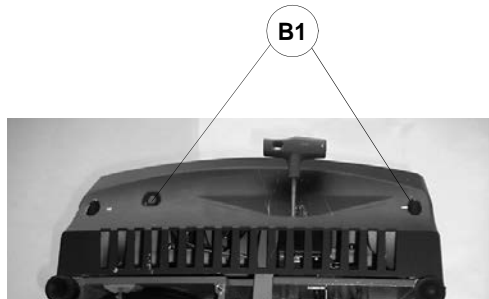

Fig. 139
- 2) remove the display's support, by unscrewing the 2 (B1) fixing screws (fig. 139).